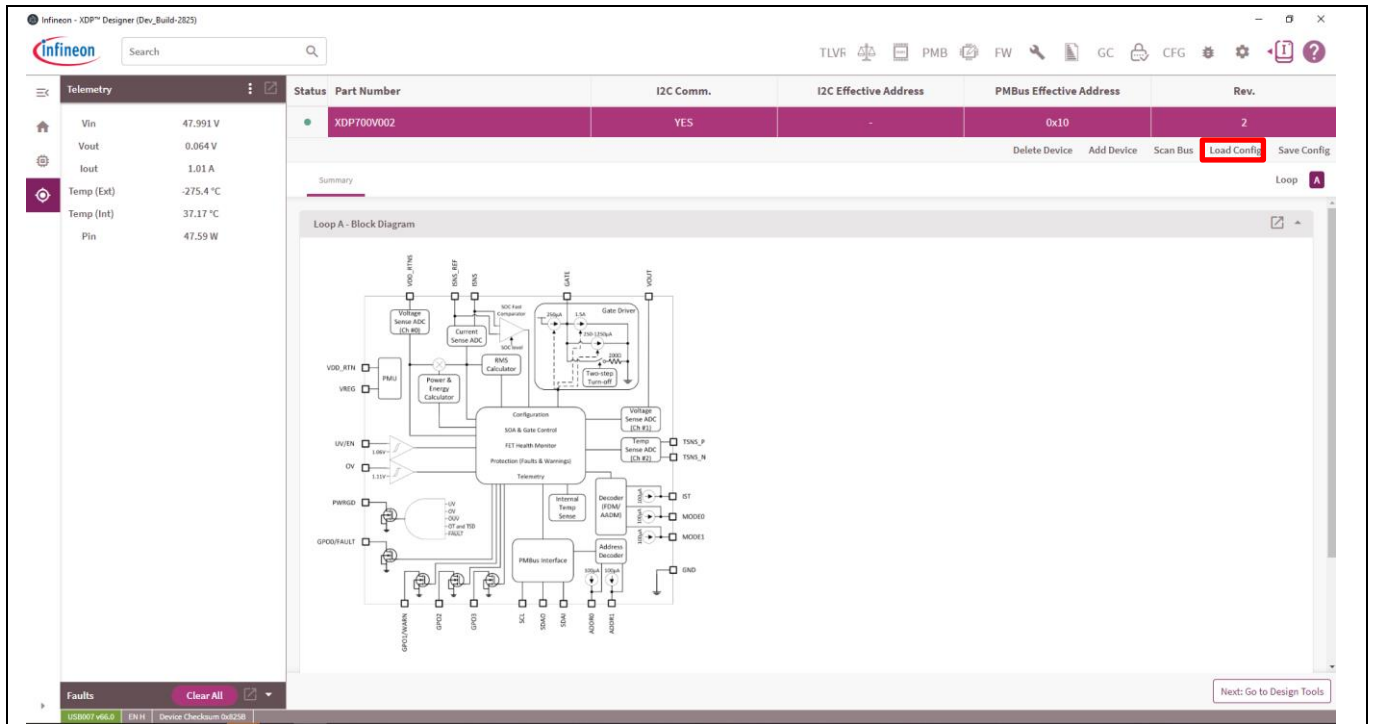

Figure 37 Select Load Config option
1. Click **Load Config**, as shown in Figure 37.